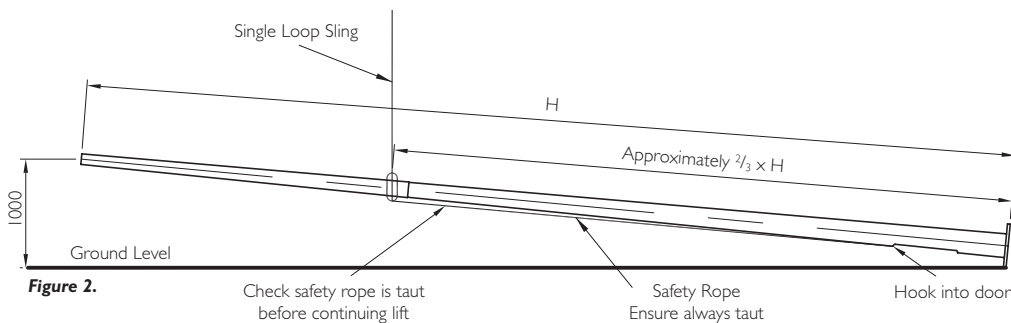

Figure 2.
- 3.4 On the opposite side to the lifting side, attach a safety rope from the sling and attach the other end to a hook which is to be hooked into the access door. Ensure the safety rope is taut at all times. Refer Figure 2.
- 3.5 Begin lifting the pole. After lifting the top of the pole approximately 1m above the ground (base should still be supported on the ground), stop and check the arrangement. Ensure that the safety rope is still taut and that the sling begins to rotate around in-line with the lift. Refer Figure 2.